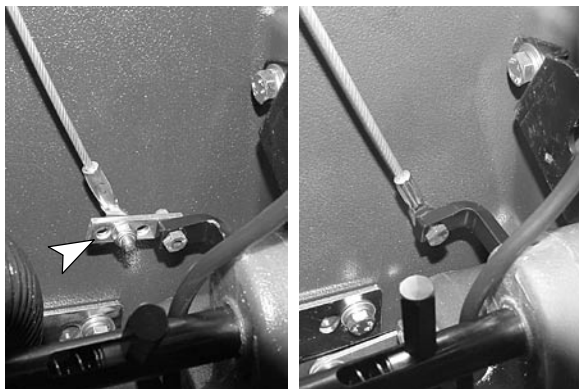

Fig. 10
6. Disconnect the opposite end of the cable and remove the link between the cable and L-bracket. Reconnect the cable directly to the L-bracket, 10mm wrench required (Figure 10).